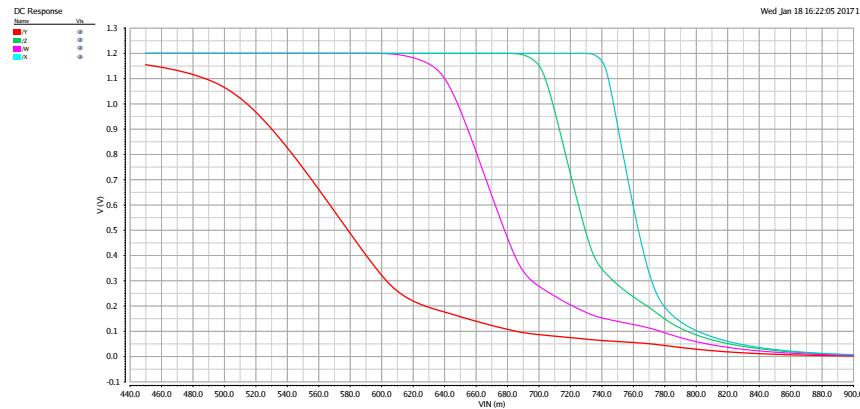

Figure 12.7: Plot of the four inverter curves resulting when all four inputs are connected together in the multi-input gate in Figure 12.3.
a) X (red) is Y4, Y(green) is Y3, and W(purple) is Y2. Motivation: With all inputs connected together we have four inverters with different p-to-n current and thus resistance ratios. Assuming that nMOS transistors have twice the current of pMOS transistors (which we know is very close to reality for the 65 nm process), the p-to-n resistance ratios for Y1-Y4 are $2R/R$, $R/2R$, $0.67R/3R$ and $0.5R/4R$. Since the threshold voltage are equal a 2-to-1 scaled inverter, that is one with R/R resistance ratio, should have $V_{sw} = V_{DD}/2$. In Figure 5.5 we have $V_{sw} > V_{DD}/2$ for all the curves. So then the VTC that is **not** drawn has to be the one where the p-to-n resistance ratio is larger than 1, that is curve Y1. The ordering of the three drawn VTCs has to be according to the p-to-n resistance ratios. In Figure 12.7 a diagram of all four VTCs is shown.
Consequently, the VTC that is **not** drawn has to be the one where the p-to-n resistance ratio is larger than 1, that is Y1, which placed to the right of the other curves. The ordering of the three remaining VTCs has to be according to the p-to-n resistance ratios with Y4 having the lowest V_{sw} and then Y3 and Y2. In Figure 12.7 a diagram of all four VTCs is shown (unfortunately the line colors not the same as in the problem).